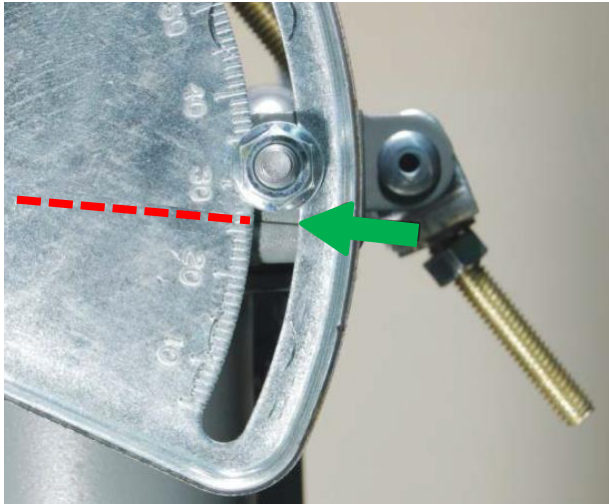

Figure 18
Step 29: Set Elevation on the Antenna with Elevation Adjustment nut #1 (fig. 5) using the Scale and Marker (fig. 18) or a digital inclinometer to better the accuracy